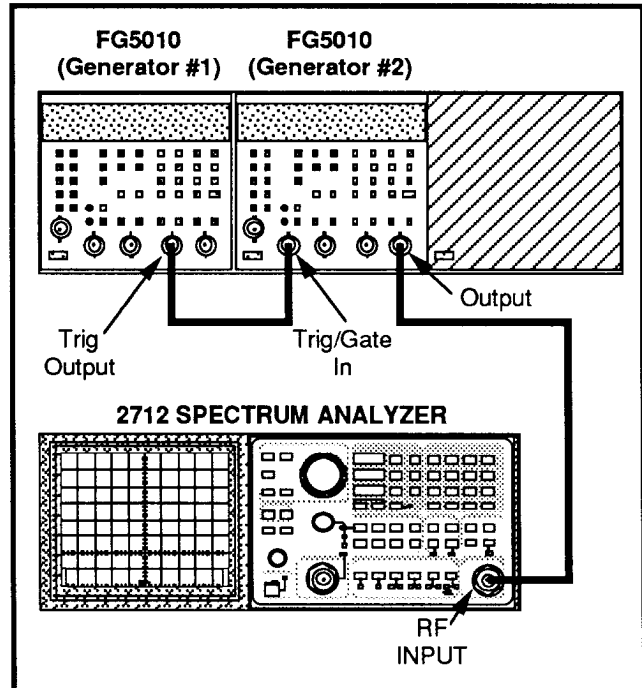

Figure 3-10. Test setup for checking the Quasi-Peak detector.
b. Connect the test equipment as shown in Figure 3-10 (generator #1 Trig Output to generator #2 Trigger/Gate In, and generator #2 Output to spectrum analyzer RF INPUT).